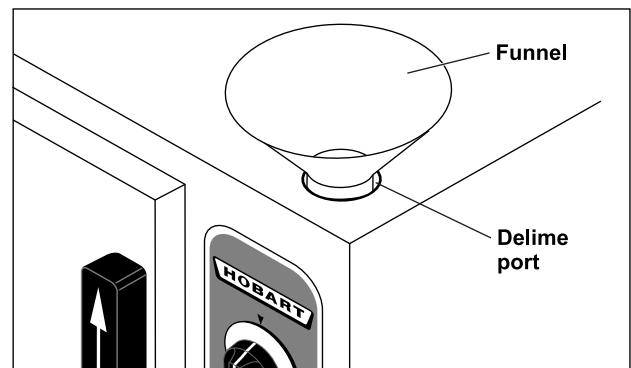

Figure 4
4. Remove delime port cap on top of unit and insert funnel into delime port (Figure 4).